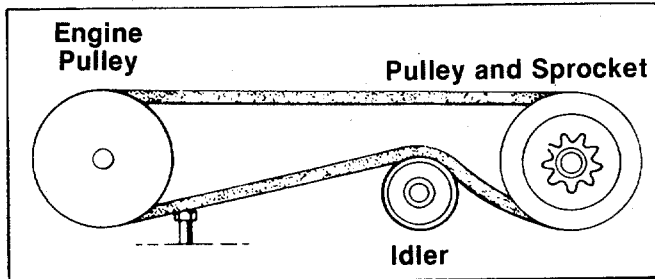

FIGURE 38.
11. Reassemble in reverse order with the new belt, making certain the idler pulley is under the belt. See figure 38.